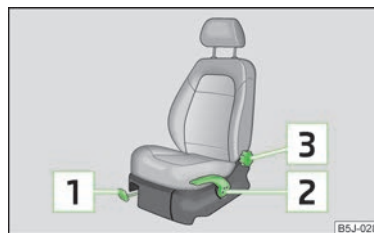

Fig. 35
- > Pull the lever **1** » Fig. 35 up and push the seat into the desired position.
- To lift the seat, pull or pump the lever **2** » Fig. 35 upwards.
- To adjust the angle of the backrest, relieve any pressure from the seat backrest (do not lean on it) and turn the handwheel **3** » Fig. 35.